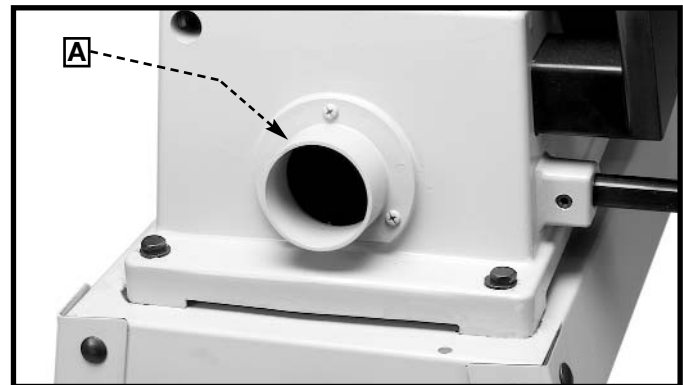

Fig. 32
An accessory miter gauge is available. The miter gauge body (A) Fig. 32 can be turned the right or left for angle or miter sanding. To change the angle, loosen the lock knob (B), rotate the miter gauge body, and tighten the lock knob (B).
A dust spout (A) Fig. 32 is supplied with your sander and can easily be connected to a standard shop vacuum hose. The inside diameter opening of the dust spout (A) is 2-1/4".